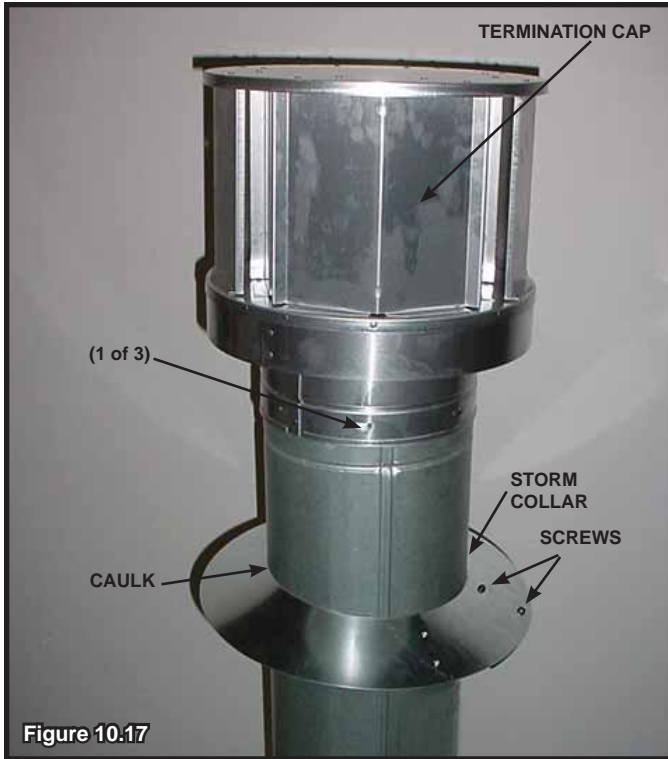

Figure 10.17
- Caulk around the top of the storm collar (see Figure 10.17).
- Secure the cap by driving three self-tapping screws (supplied) through the pilot holes in the outer collar of the cap into the outer flue of the pipe (see Figure 10.17).